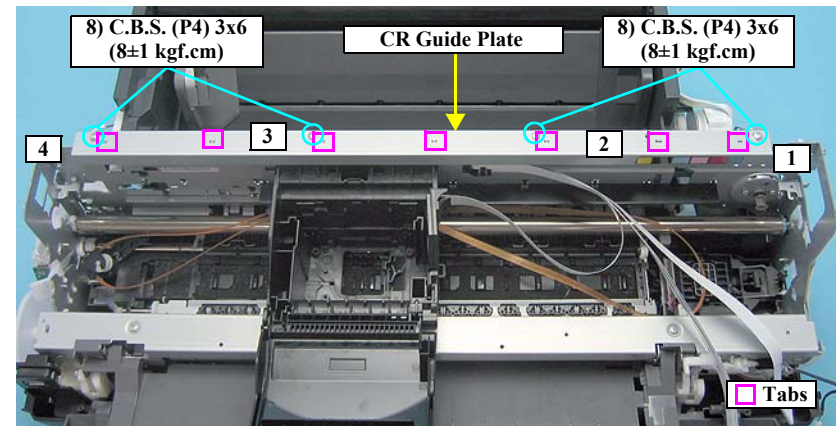

Figure 4-67. Removing the CR Guide Plate
- Align the positioning holes of the CR Guide Plate with the seven tabs on the Main Frame. See Figure 4-67.
- Tighten the screws in the order shown in Figure 4-67.